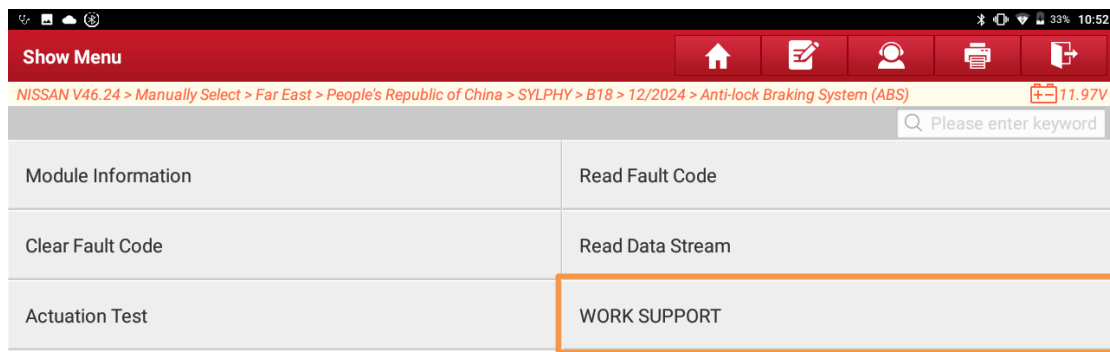
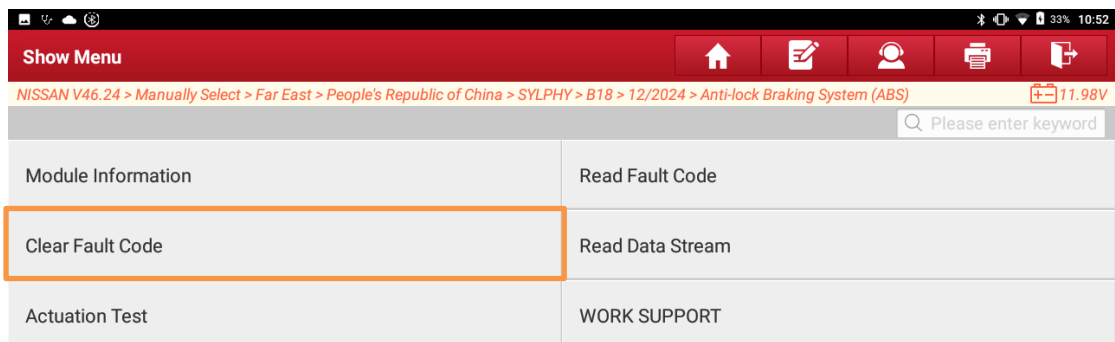

Figure 10
Figure 15
5. Click “ENTER” to enter the ABS menu interface (Figure 10).
9. Exit to the ABS menu interface (Figure 10), click [Clear Fault Code] (Figure 15), click "Yes", and then click "OK" to clear the DTC information.